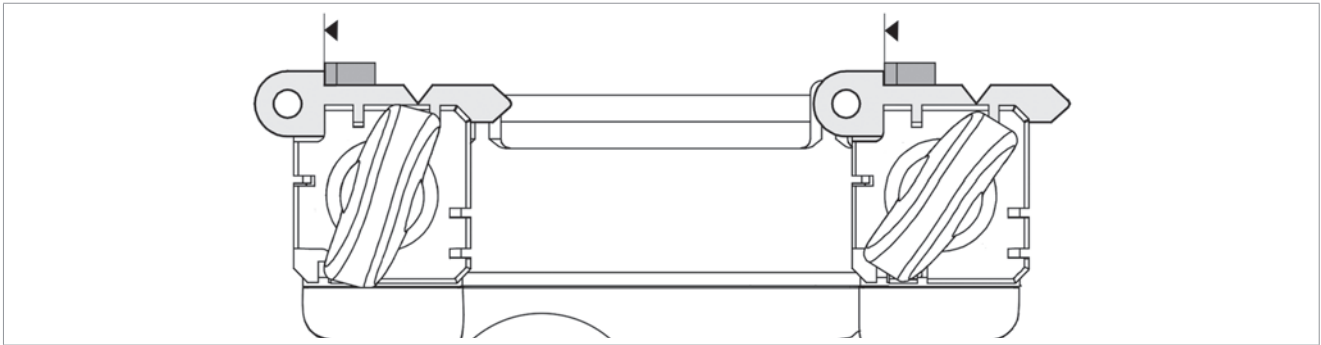

Fig. 16
- 2) Place the adjustment keys (provided) on the clamps (Fig. 16).
- 4) Turn the calibration rod towards the operator so that the gauges (H) into contact with the adjusting plates (Fig. 16).